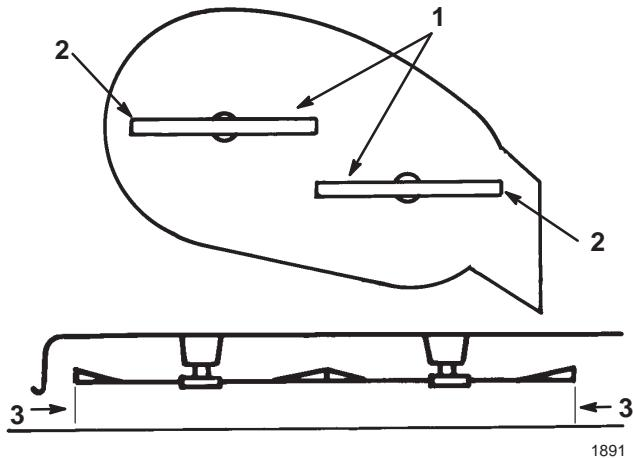

Figure 48
4. Carefully rotate the blade(s) side to side (Fig. 48). Measure between the outside cutting edges and the flat surface (Fig. 48). If both measurements are not within $3/16$ in. (5 mm), an adjustment is required; refer to steps 5 and 6.